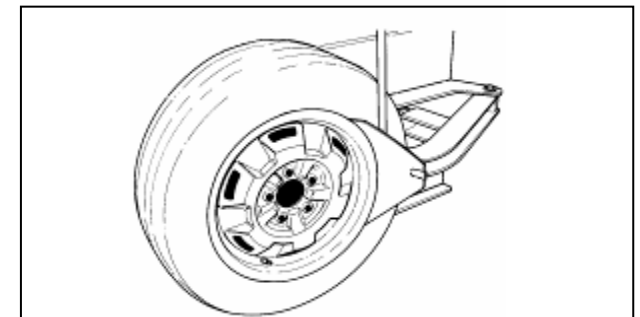

Fig. 9
B. Break both beads (Fig.9)
B. Détalonner (Fig.9)